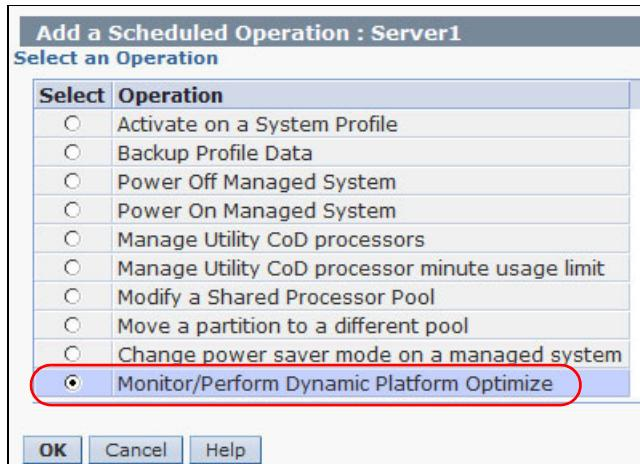

Figure 1-15 Add a Scheduled Operation window
3. If the system can perform DPO, a new task, named **Monitor/Perform Dynamic Platform Optimize**, is shown (Figure 1-15). Select that task and then click **OK**.